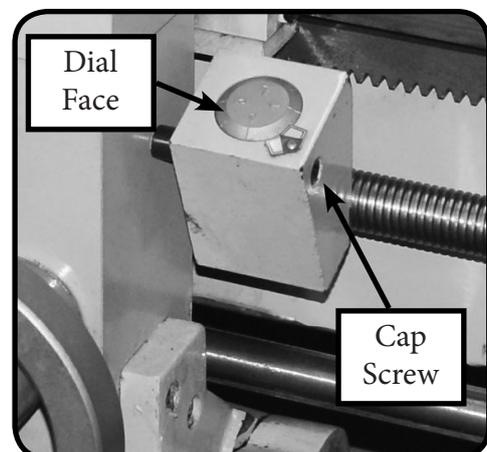

Fig. 39
1. Loosen the cap screw on the thread dial and pivot the gear teeth so they mesh with the leadscrew threads, then re-tighten the cap screw. (see Fig. 39),